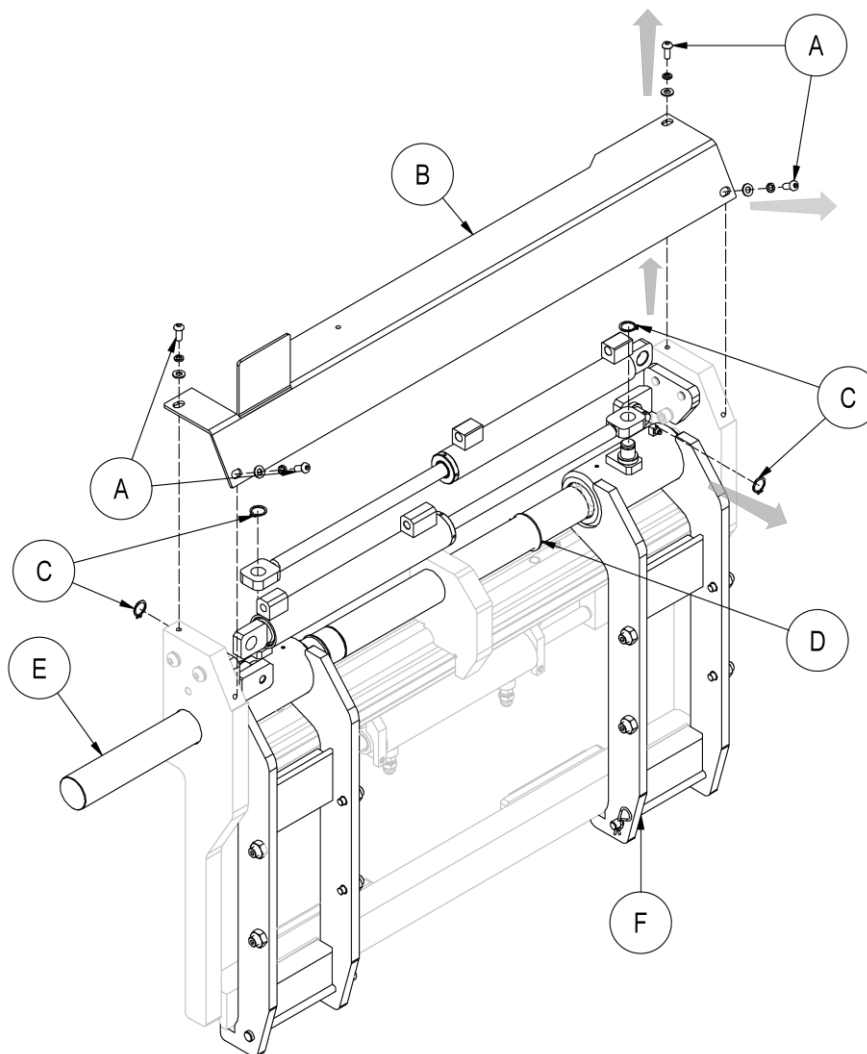

Figure 20
6. Loosen snap ring **D** that secures the bar and remove it from its housing, positioning it at a sufficient distance to be able to remove the pocket on the same side (see *Figure 20*).
7. Using a rubber mallet, gently drive out bar **E** (see *Figure 20*).
8. Carefully remove pocket **F** (see *Figure 20*).